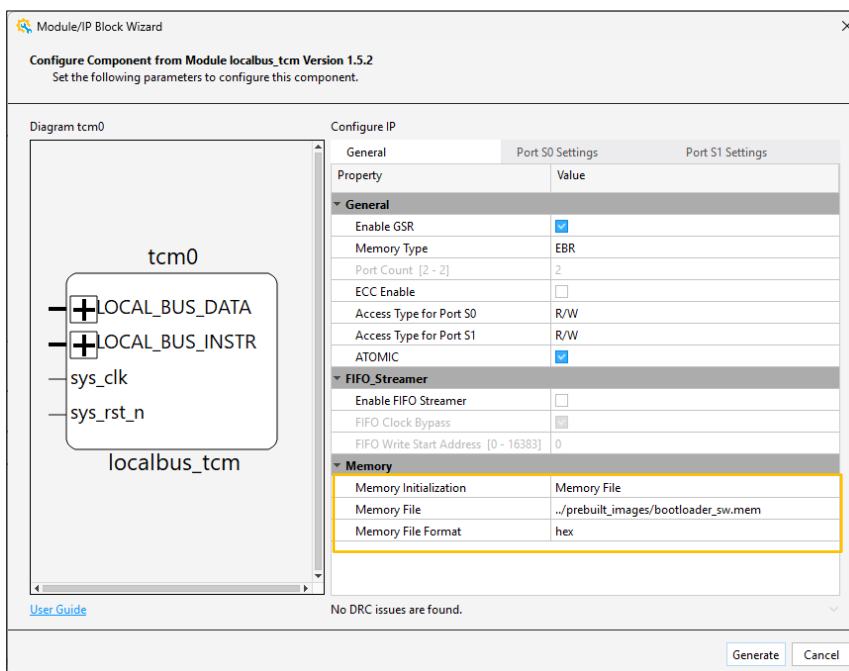

Figure 8.14. Tightly Coupled Memory IP Setting to Pre-initialize with Bootloader Software
6. Select `bootloader_sw.mem` and click Open. Figure 8.14 shows the final configuration.